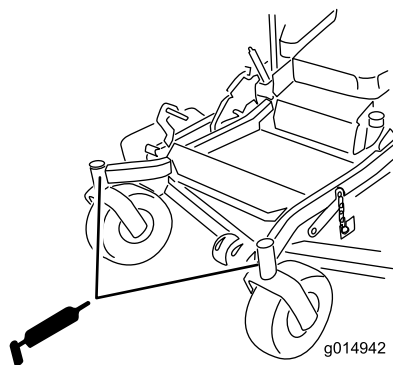

Figure 34
7. Remove the grease zerk in the hole. Install the hex plug and dust cap (Figure 34).